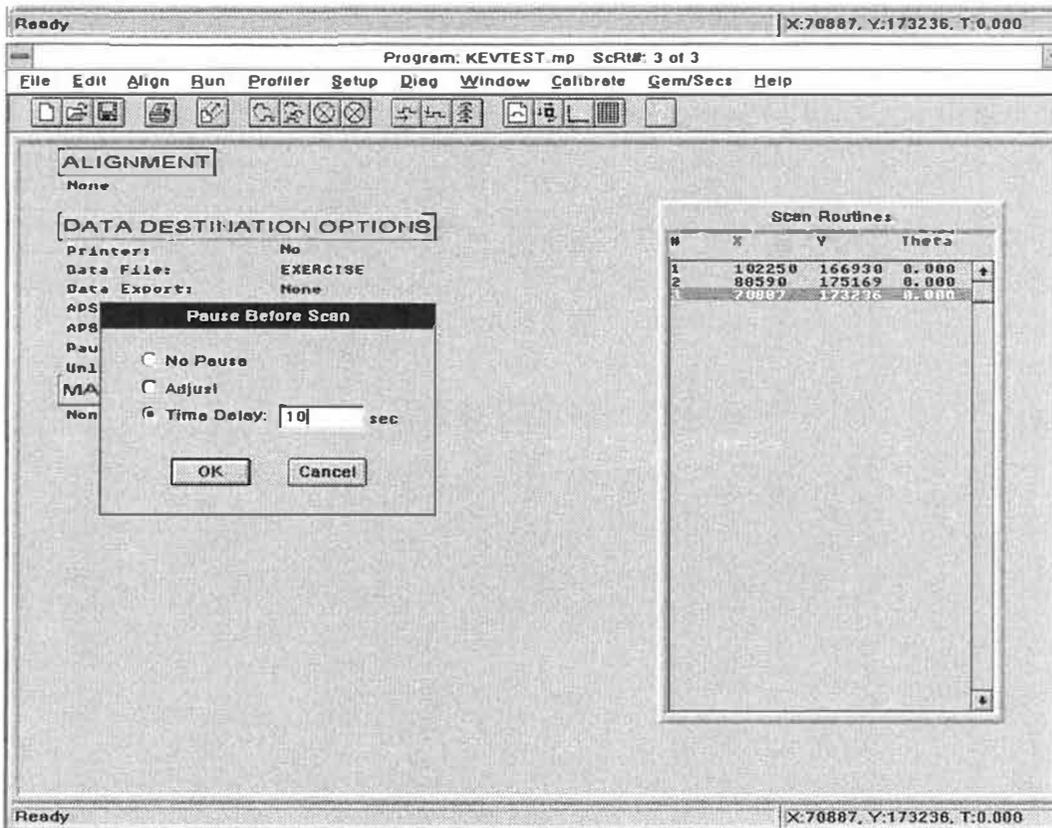

Figure 5-13. Delay Before Scan
1. Click-on "Pause Before Scan" and a dialogue box will be displayed permitting a time delay to be entered in seconds (see Figure 5-13).